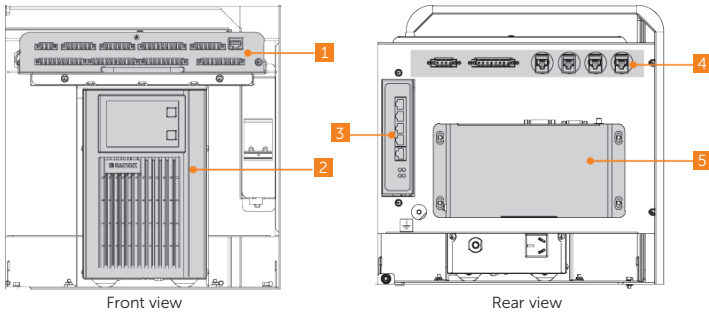

Figure 2-7 Control area
- The control area is not fully visible. For details, see "Figure 2-7 Control area".